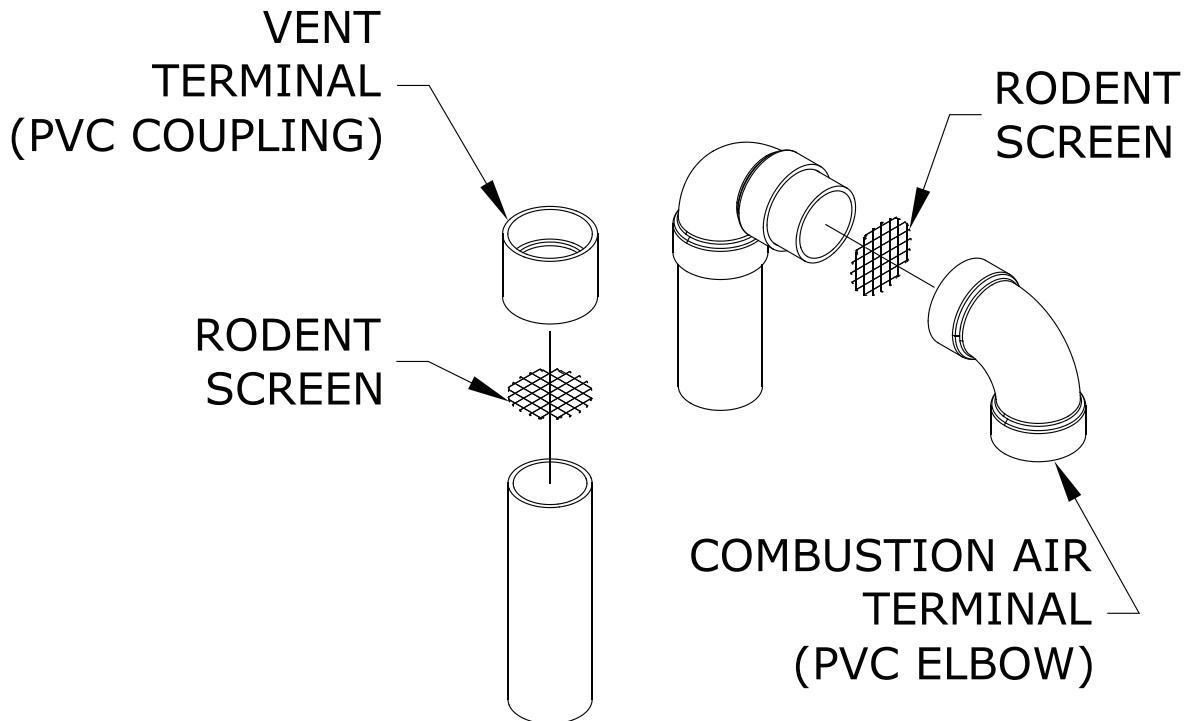

Figure 7.29: Installation of Standard Vertical Terminals
- See Figure 7.29 for the proper orientation of twin pipe vertical terminals.
- A 180° bend (or two 90° elbows) are installed on the top of the air intake pipe. If two 90° elbows are used, a rodent screen can be installed between them (Figure 7.29). If a 180° bend is used, install a rodent screen in the open side of the bend, using a ring made of PVC pipe. If desired, the termination fittings can be attached to the end of the vent and/or intake pipes with field supplied stainless steel screws so that they can be later removed for cleaning and inspection. If this is done, drill a clearance hole in these fittings and a tap hole in the end of the vent/intake pipes to accept these screws.